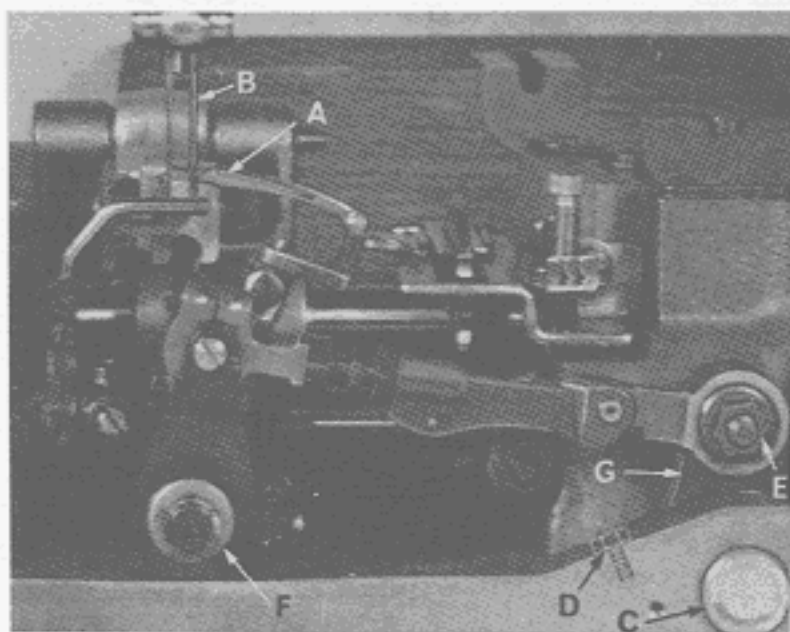
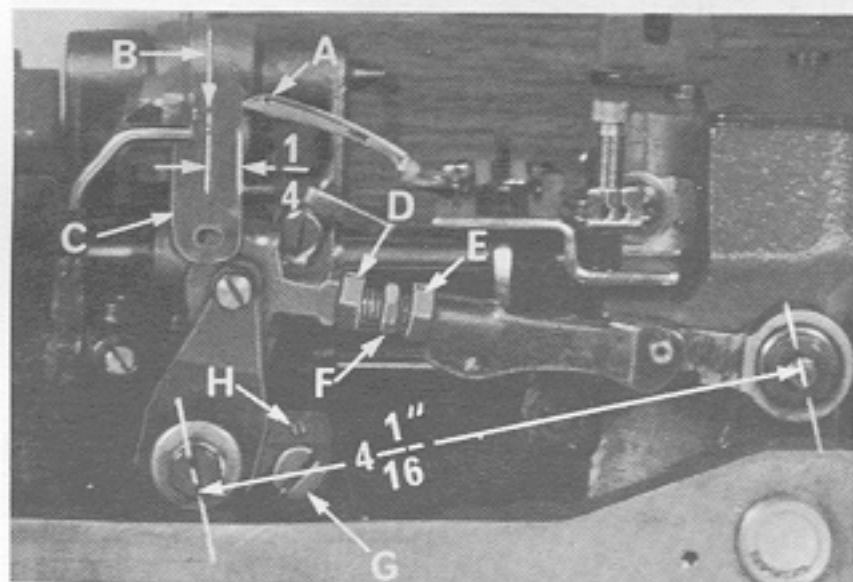

Fig. 5
Fig. 6
Insert the looper in the looper rocker and turn handwheel in operating direction until the point of the looper (A, Fig. 5), moving to the left is even with the left side of right needle (B). Note the height of the eye of the needle with respect to the looper point, then turn handwheel in the reverse direction until the looper point again moves to the left, and is even with the left side of the right needle. If the motions synchronize, the height of the eye of the needle with respect to the looper point will be the same. A variation of .005 inch is allowable. If the distance from the eye of the needle to the point of the looper is greatest when the pulley is turned in the operating direction, move the looper drive shaft synchronizing stud (C) to the rear. Moving it in the opposite direction acts the reverse.
Moving of the looper drive lever shaft synchronizing stud is accomplished as follows: Loosen the clamp screw (D, Fig. 5) of the looper drive lever. To move stud to rear (away from operator), a light tap with a small hammer, directly on the stud, is all that is required. To move stud forward (toward operator), remove the cloth plate, throat plate support, oil reservoir top cover and oil reservoir back cover, then, a light tap on the looper drive lever rocker shaft, toward the operator, is all that is required. Then, using the looper drive lever to take up the end play between the looper drive lever rocker shaft and its synchronizing stud, tighten the looper drive lever on the shaft, using screw (D, Fig. 5).
With the looper at the extreme right end of its travel, check the location of the center line of the right looper connecting rod bearing, using gauge No. 21227 CX. Remove nut (E, Fig. 5) and place hole in gauge over threaded stud. The left end of the gauge should locate against the right side of the looper rocker cone (F). If adjustment is necessary, loosen the clamp screw (D) and reposition the looper drive lever (G) as required. Tighten clamp screw. If gauge is not available setting can be checked with a scale. The distance between the center line of the looper rocker cone and the center line of the looper lever stud should be $4 \frac{1}{16}$ inch (Fig. 6).
Insert a new needle in the right needle seat, type and size as specified. If the looper gauge is $\frac{1}{4}$ inch, for example, set the looper (A, Fig. 6) so the distance from the center of the right needle (B) to the point of the looper is $\frac{1}{4}$ inch, when the looper is at its farthest position to the right. Looper gauge No. 21225- $\frac{1}{4}$ (C) can be used advantageously in making this adjustment. Refer to chart on the following page for needle Type, looper gauge setting and looper gauge number for the various styles of machines. If adjustment is required, loosen nut (D) (it has a left hand thread) and nut (E) on connecting rod (F), turn the connecting rod forward or backward to obtain the $\frac{1}{4}$ inch dimension. Retighten both nuts, first nut (E). Then nut (D). Make sure the left ball joint is in vertical
If adjustment is necessary, loosen lock screw (G, Fig. 6) and turn stop screw (H) as required. Turning stop screw clockwise sets the looper to the rear and turning it counterclockwise acts the reverse. Holding looper to the front while making this adjustment may prove helpful. Tighten lock screw when setting is obtained and recheck the adjustment. Now insert another needle in the left needle seat.